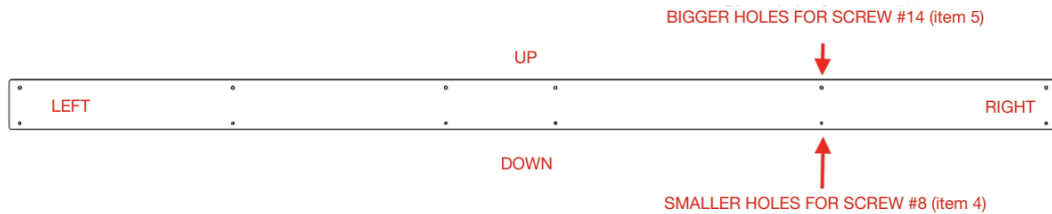

Figure 10 Bottom flange #4 placement
- a. Prepare the positioning of the Bottom frame #4 for the exchanger, according to Figure 10.